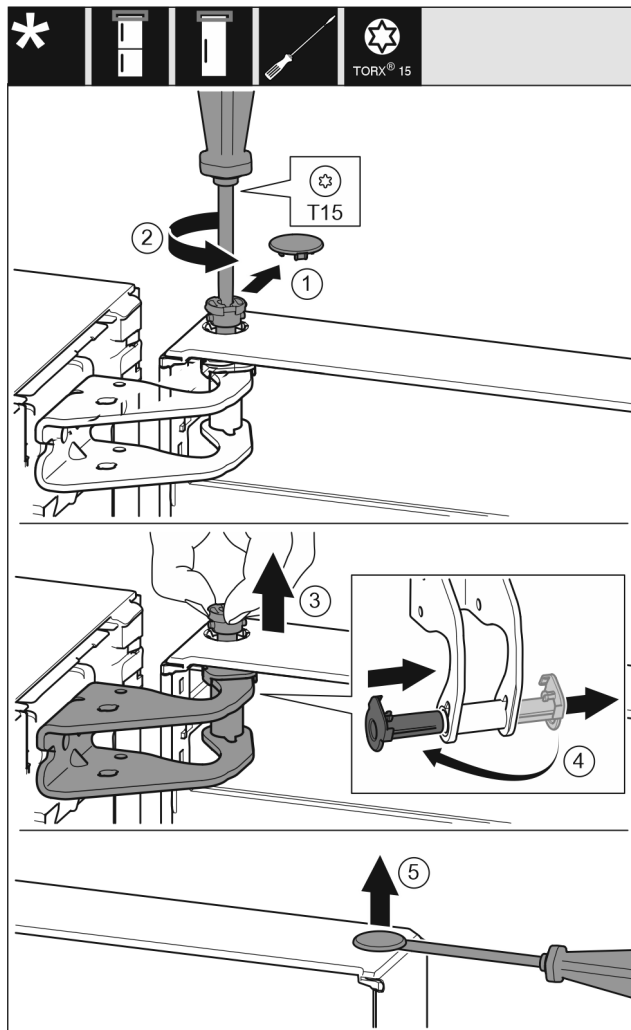

Fig. 7
- ▶ Carefully remove the protective cover. Fig. 7 (1)
- ▶ Undo the bolt a little with a T15 screwdriver. Fig. 7 (2)
- ▶ Hold the door and remove the bolts with your fingers. Fig. 7 (3)
- ▶ Pull the bearing bush out of the guide. Insert from the other side and latch into place. Fig. 7 (4)
- ▶ Carefully lift the plugs out of the door bearing bush with a slotted screwdriver and pull them out. Fig. 7 (5)